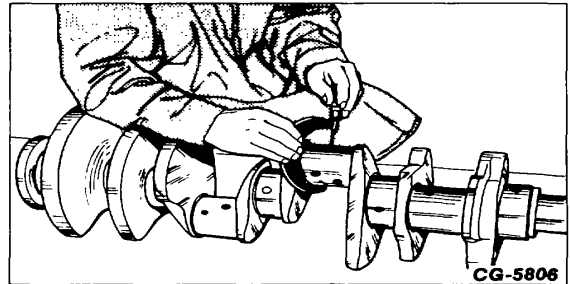

Figure 11. - Measuring the Crankshaft Journals
3. Measure the diameter of each journal using a micrometer as shown in Fig. 11. Measure each journal at two points, at right angles to each other. Move the micrometer over the entire width of the journal. Limits of: